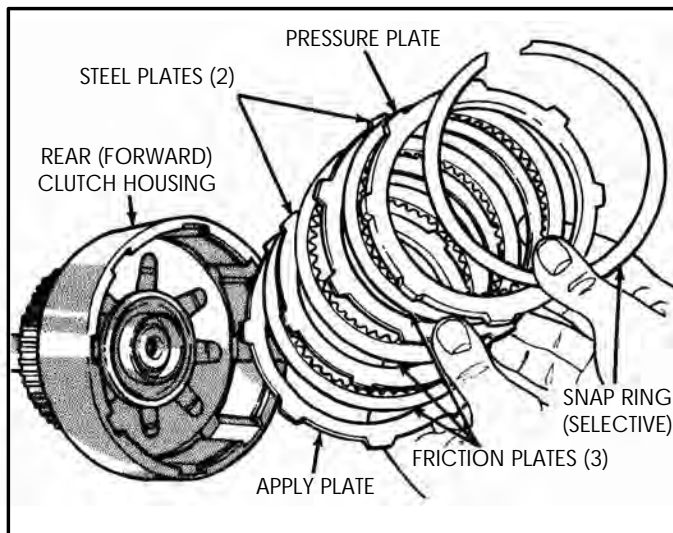

Figure 74
2. Remove the pressure plate, friction and steel plates and apply plate from the housing, as shown in Figure 74.
15. Install the apply plate into rear clutch housing, as shown in Figure 74.
17. Install the pressure plate into the rear clutch housing, as shown in Figure 74.